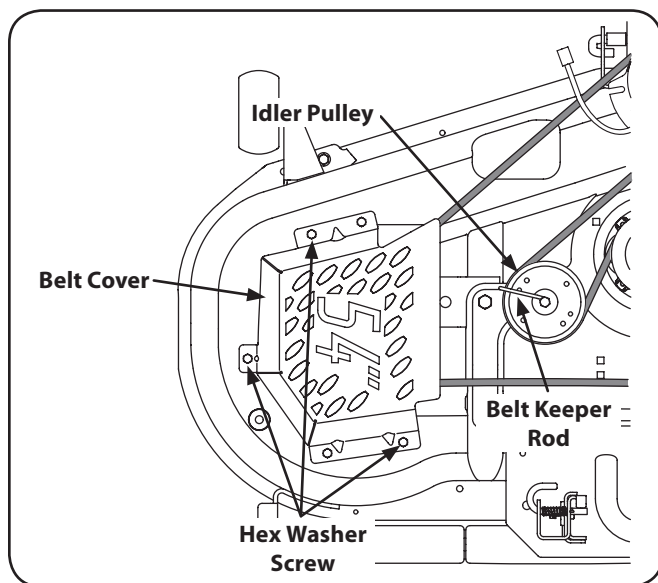

Figure 7-7
2. Remove the belt guards by removing the hex washer screws that fasten them to the deck. See Figure 7-7.
3. Loosen, but do not remove the belt keeper rod on the pulley located near the back of the deck. See Figure 7-7.